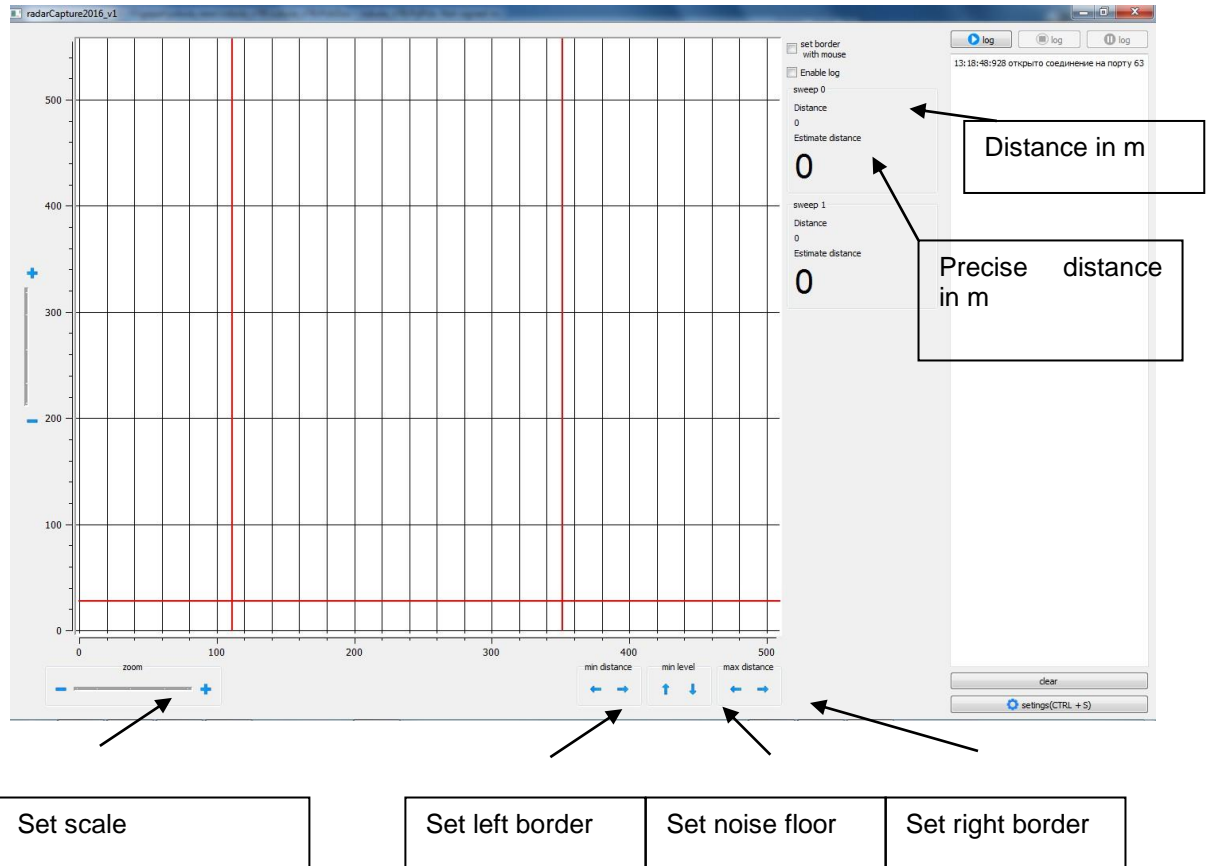

Fig. 20. Window of radarcapture2016.exe application
- Get yourself familiar with application window (Fig. 20)
- Using alignment nuts/bolts at Fig. 20, run slow antenna beam mechanical scanning in both directions relative to the current direction in the azimuthal plane and fix the position corresponding to the highest level of the reflected signal.